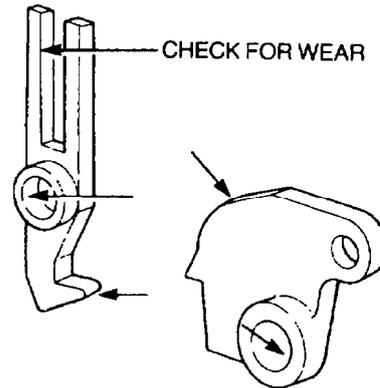

Figure 102 Sensor Lever and Torque Cam Wear Points
- g. Check the sensor lever and the torque cam for wear at the points shown in Figure 102. Replace the sensor lever and/or the torque cam if excessive wear is evident.